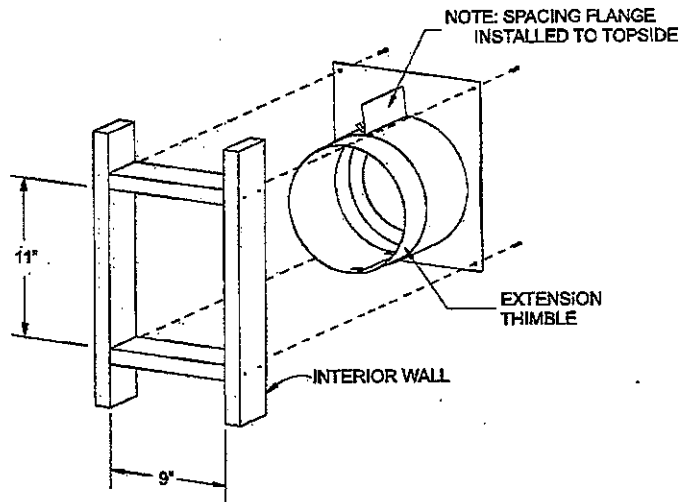

Figure 1
2. Cut hole in wall for wall thimble/firestop assembly (Figure 1) into your combustible wall. Note: On brick or block exterior wall a 7" (178mm) diameter hole needs to be cut. If installing on vinyl or lap siding, cut siding to dimensions of outside mounting plate.
Measure the total wall thickness to determine whether or not the extension thimble is to be used. If the combustible wall depth is over 5 3/8" (137mm), then the extension thimble should be used (Figure 1).
3. Install the wall thimble assembly through the framed opening so the firestop plate is on the interior wall (Figure 1). Telescope section should extend all the way through the exterior wall. Attach with (4) 10 x 1" screws.